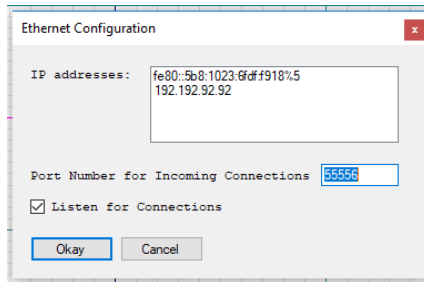

Figure 5.7 Ethernet options.
Click on *File* then *Ethernet Configuration* (Hotkey: Ctrl-E). This will display an Ethernet configuration dialog box (Figure 5.7).
1. The IP addresses shown in Figure 5.7 are only an example. IP addresses listed in the dialog box are for the machine running CT Viewer 2. You will need to enter one of the listed IP addresses into the CT100B configuration to connect a CT100B to CT Viewer 2 using Ethernet. For more information on connecting using Ethernet, see Section 3.2.